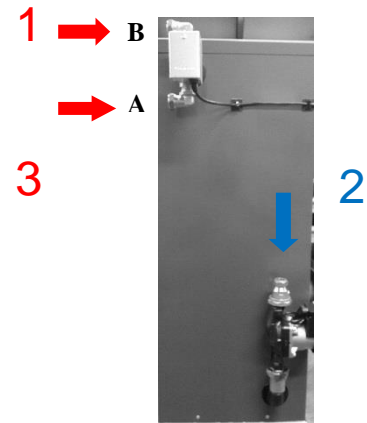

Figure 2
- Always assemble the expansion tank in the return pipe (see fig 2) as near as possible to the boiler.
### B-serie Calorifier (figure 2)
The loose fill and drain combination with pressure relief valve (max 3 bar) is mounted at point 4 (see figure 2, page 8). Connect your hose on to open the fill and drain combination black button. Open tap the left and put the kettle on 2 bar pressure (see pressure gauge). Vent the entire heating system and put the heating system is between 1.5 and 2 bar pressure.